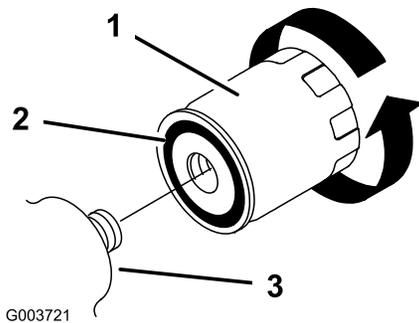

Figure 32
5. Remove the old filter (Figure 32) and wipe the surface of the filter adapter gasket clean.
6. Apply a thin coat hydraulic fluid to the rubber gasket on the replacement filter (Figure 32).
7. Install the replacement hydraulic filter onto the filter adapter (Figure 32). Tighten it clockwise until the rubber gasket contacts the filter adapter, then tighten the filter an additional 1/2 turn.